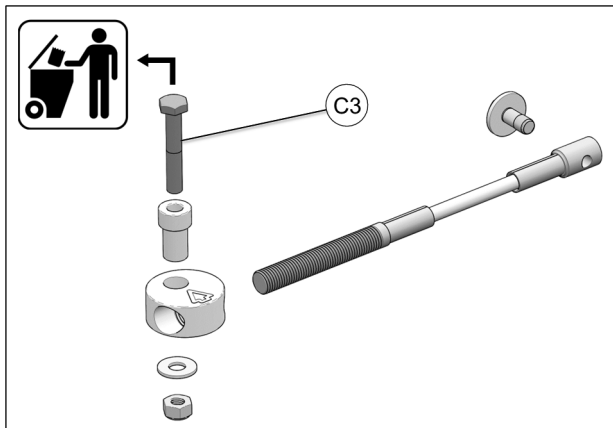

Fig. 20
11. Remove and discard M10 bolt (C3) from steering limiter cable parts kit as shown in Fig. 20